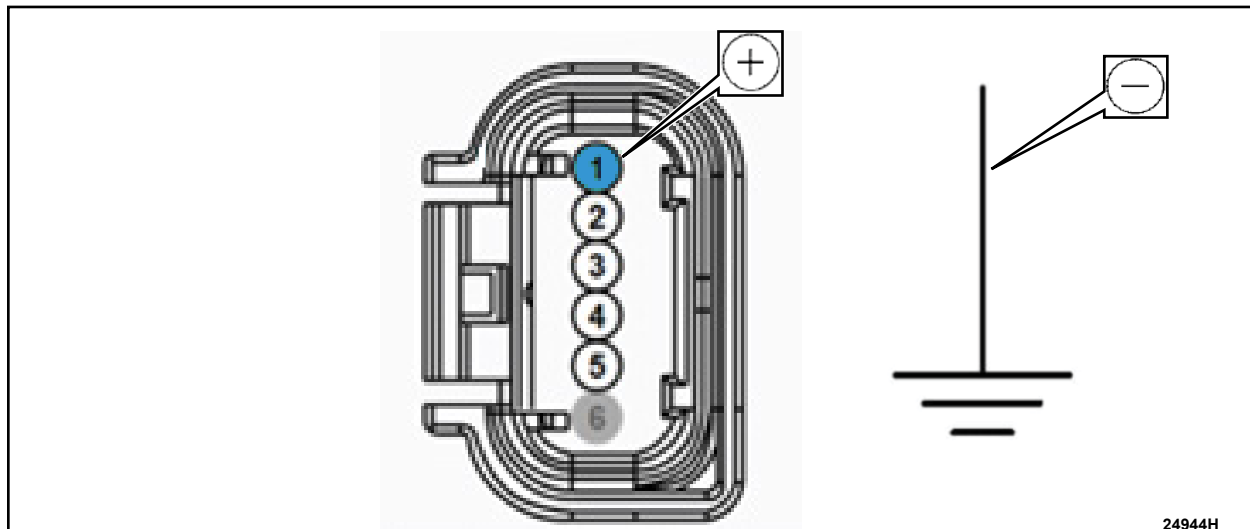

FIGURE 1
6. Check the voltage to the rear parking aid camera / video camera connector. See Figure 1.